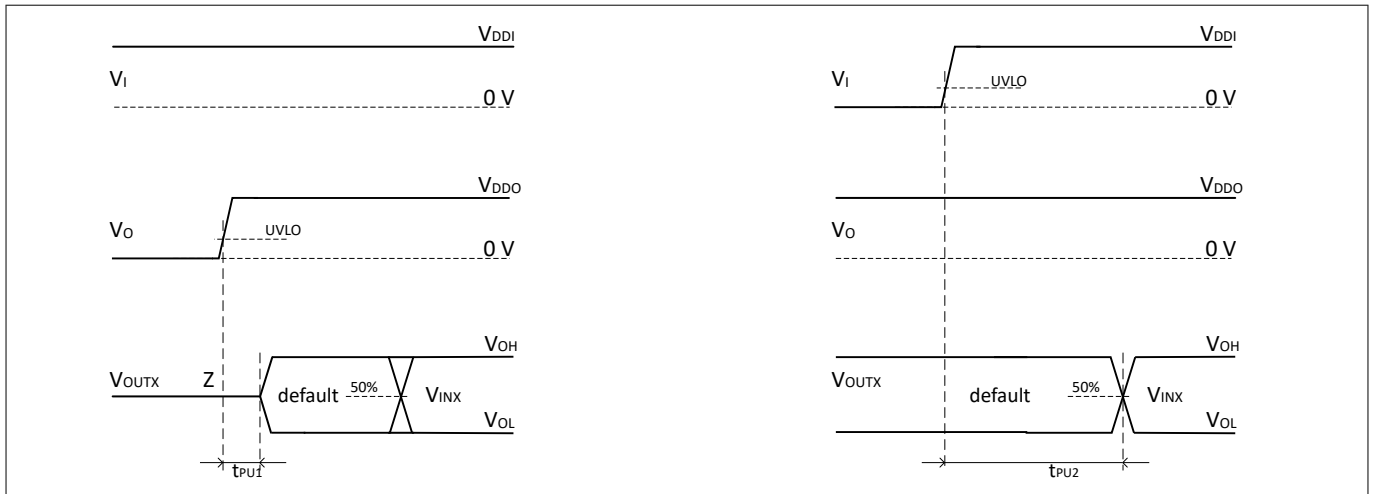

Figure 17 Power-up delay time
Figure 17 illustrates the output behavior when input and output side supplies have different power-up timings where the power-up time is $t_{PU} = \max\{t_{PU1}, t_{PU2}\}$.
Communication based on Coreless Transformer (CT) is used for signal transfer between input and output channels. If a constant DC level within the operating range is applied at the input, a proven high resolution pulse repetition scheme ensure functionality, enabling the output to follow the constant DC input. It also enables recovery from communication fails and safe system shutdown. In case of a power loss at the input channel, the pulse repetition scheme will be disabled and a watch-dog timer at the output triggers approximately after t_{DO} time period and drives the channel output to the default state. In case of multiple channels on the output side, the first watch-dog timer detecting the power loss at the input will drive all output channels on that side to default value. Once the power supply on the input channels is above the threshold value ($V_{DDX(UVLOon)}$), the communication is restored and the output will follow the input as shown in Figure 17.